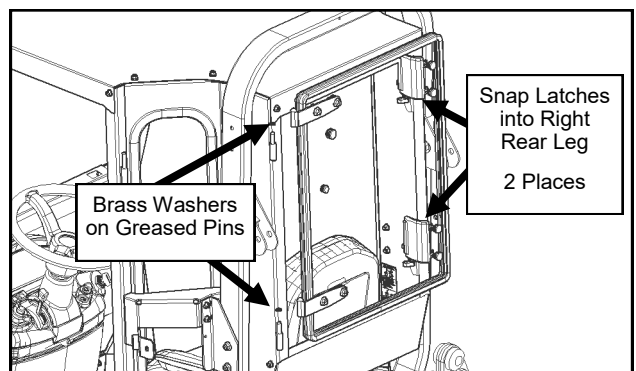

Fig. 13.1 (Hang Rear Window)
13.1 Grease the hinge pins for the rear window, and slide on greased brass washers (one washer per pin). See Figure 13.1.